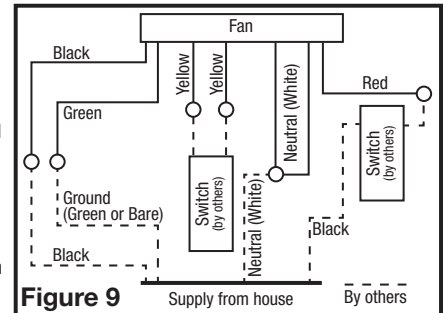

Figure 9
- Continuous Ventilation:** For two speed fans wired for continuous ventilation, connect the White wires of the fan to the White (Neutral) wire from the power source. Connect the ground wire from the house to the green wire from the fan housing. Connect the Black wire of the fan to the Black wire (Hot) from the power source. Using a properly grounded standard toggle switch (not included), connect the Black wire from the supply to one side of the switch. Connect the Red wire (light) from the fan housing to the other side of the switch. Using a second properly grounded standard duplex toggle switch, connect the Hot Yellow wire from the fan to the input of the switch. Connect the second Yellow wire from the fan to the output side of the switch. Closing the switch will change from normal to high speed (**Figure 9**).